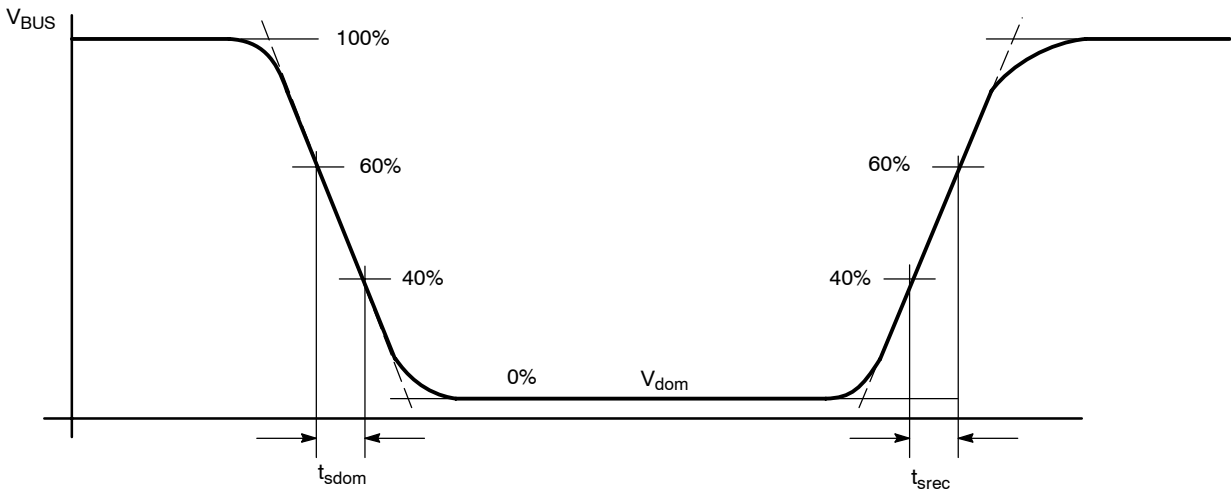

Figure 7. Slope Time and Slew Rate Calculation
13. See Figure 7 – Slope Time Calculation.